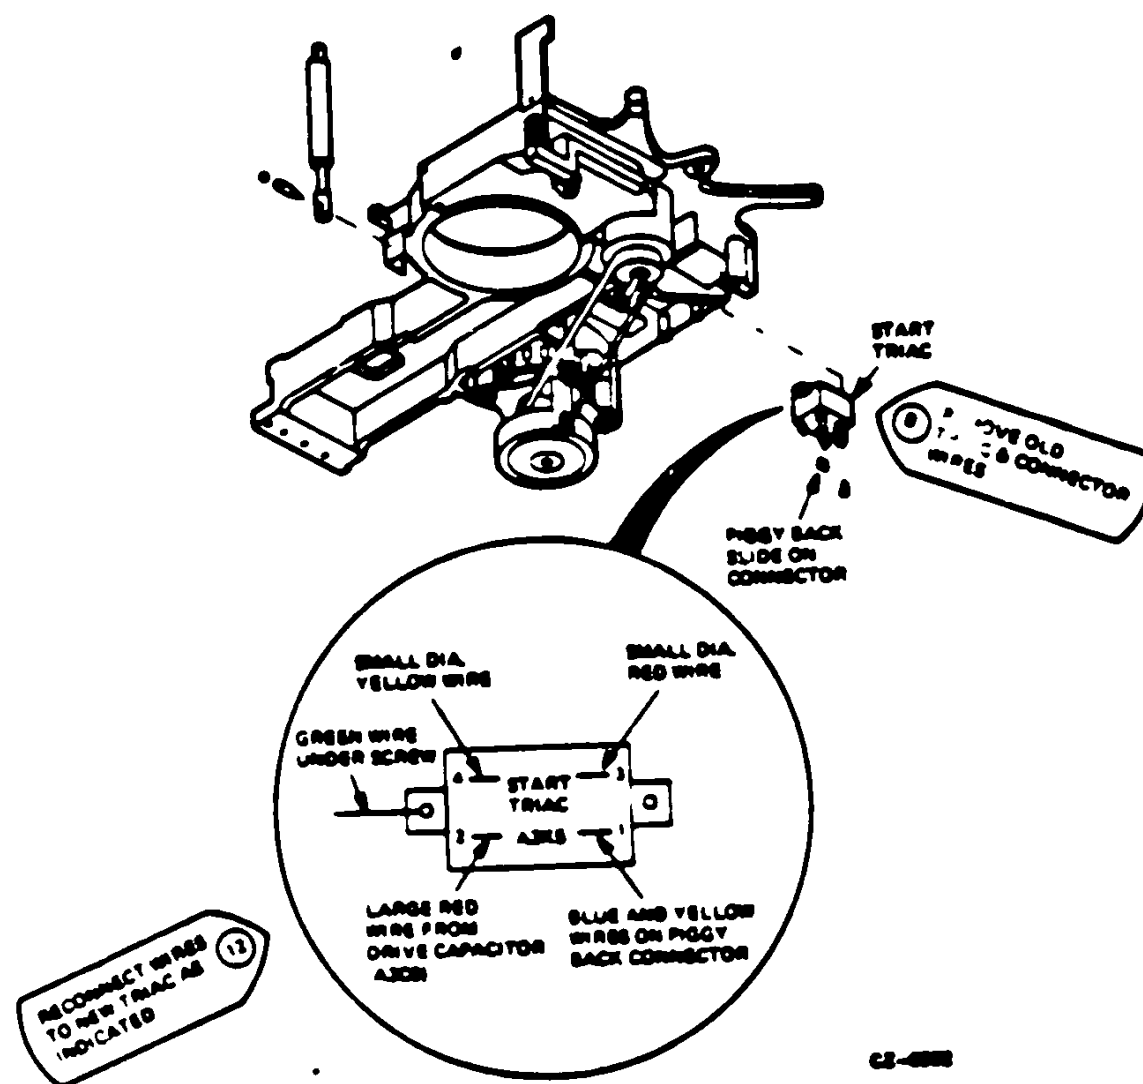

Figure 2 Start Triac A3K5
6. Remove the two (2) deck hold-down screws from inside the pack shroud area.
8. Locate and remove all connectors from the start triac A3K5. (See Figure 2)
9. Remove the two (2) screws that secure the triac in place.
11. Mount the new triac using the two (2) screws previously removed. Be sure to attach the green grounding wire to one of these screws.
12. Reconnect all wires to the triac terminals according to Figure 2.
14. Re-install the two (2) deck hold-down screws inside the pack shroud area.